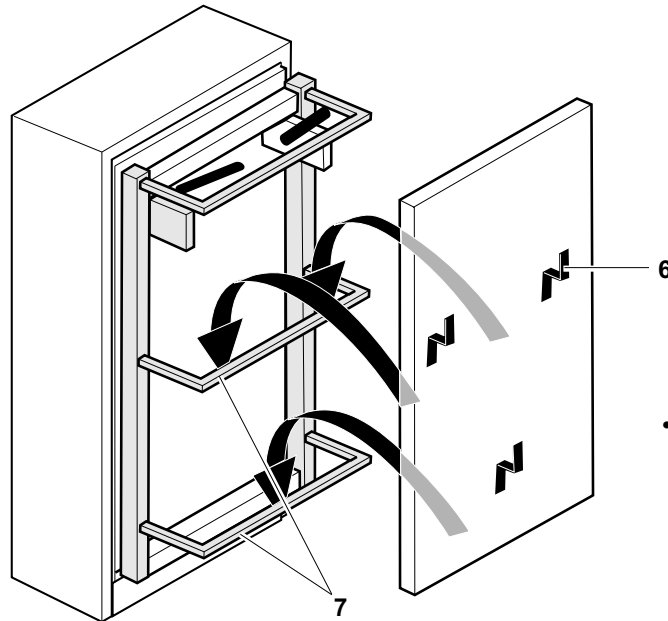

Fig. 13
- Hang prepared front panel with front-panel brackets **6** on the transverse tubes **7** on the bed frame, see **Fig. 13**.